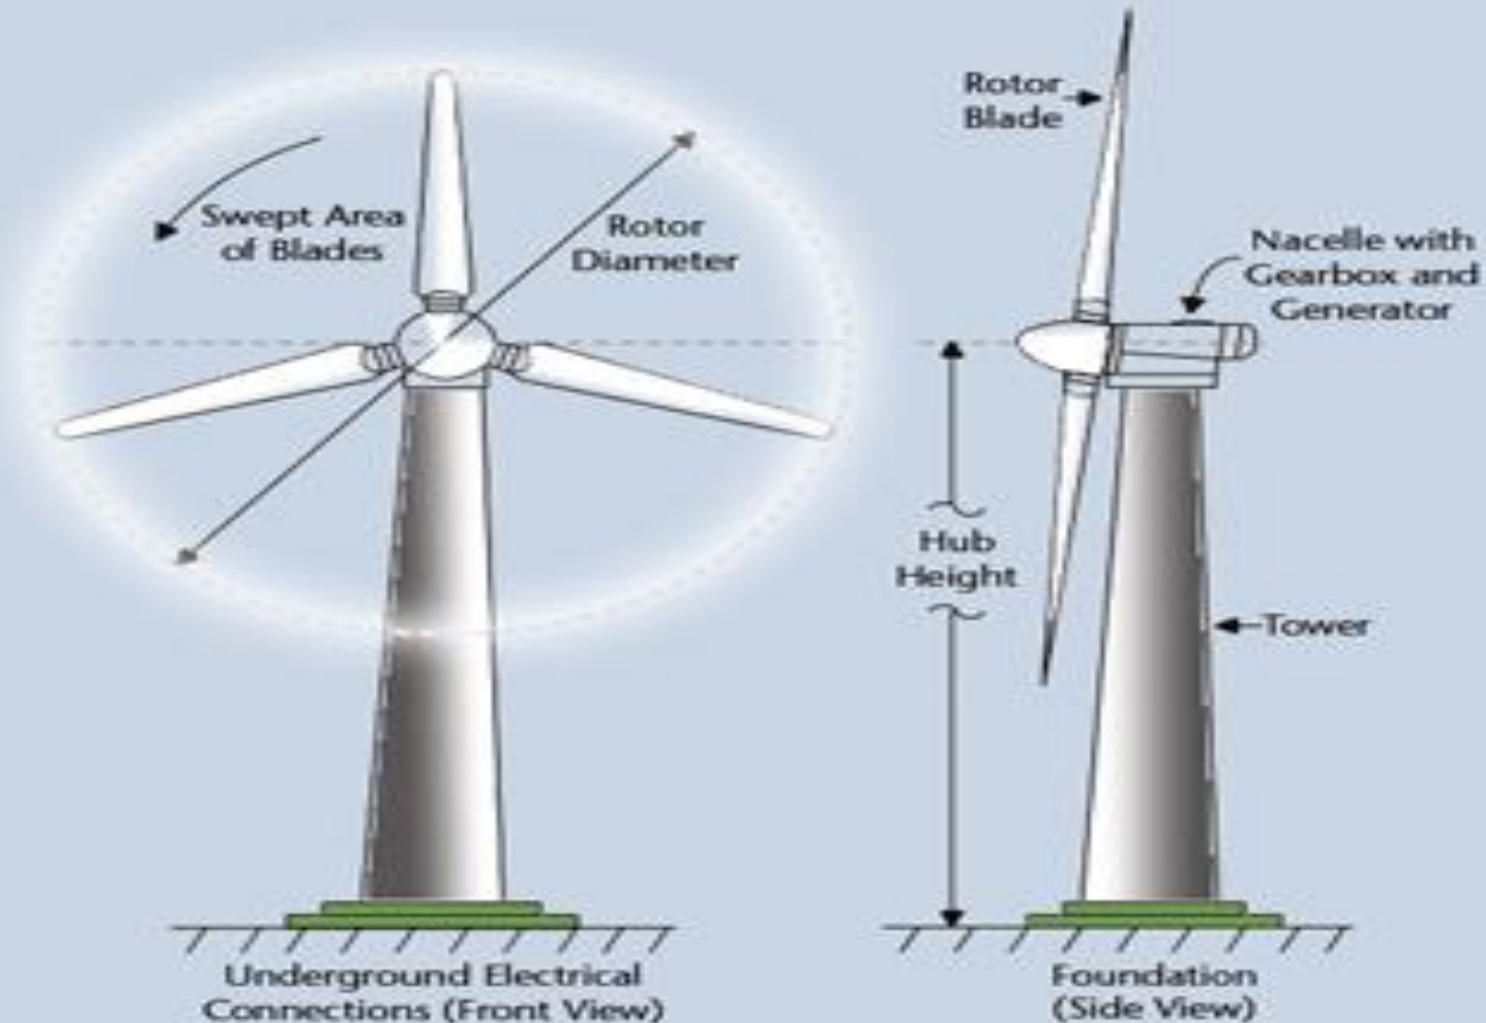

Figure 1. swept area of wind power generation.
- The wind power is generated due to the motion of wind , which in turn is converted into kinetic energy as presented in Fig.1.